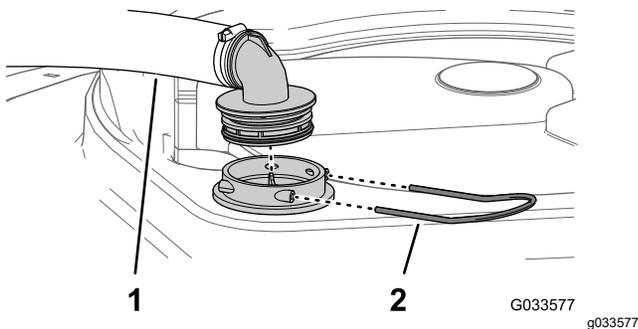

Figure 59
2. At the top of the sprayer tank, remove the retainer that secures the hose fitting attached to the large hose from the filter housing (Figure 59).
3. Remove the hose and hose fitting from the filter housing (Figure 59).